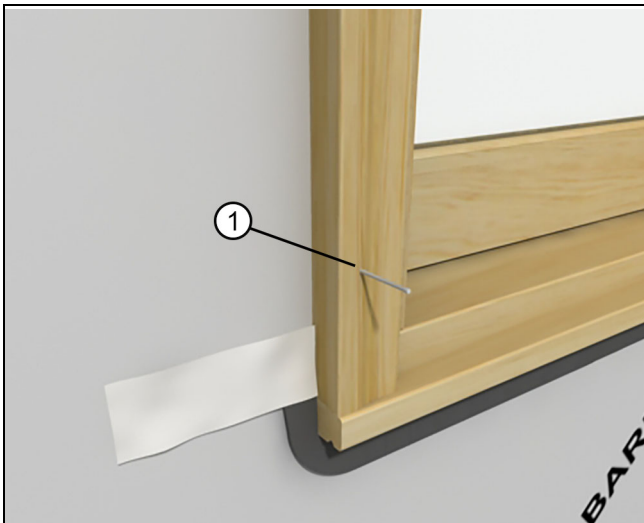

Figure 16
4. Once square fasten the lower corners and recheck for square. See Figure 16.